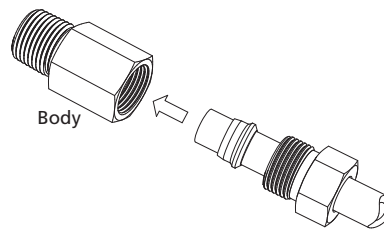

Fig.8
6. Insert the tubing with preassembled ferrules into the fitting body or the valve. Finger tight the nut (Fig. 8).